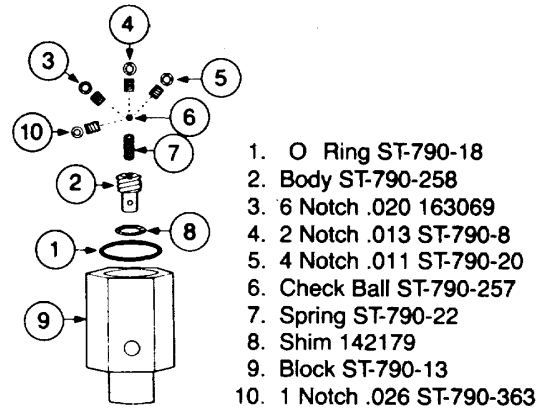

Figure 16H-90. Injector Seat Restrictor Orifice
9. Place the adapter plate over the master injector, ST-768, ST-1210, ST-1262 or ST-1306, and engage the locator in the injector mounting holes. Make sure the seat is retracted and the timing marks are aligned at the timing wheel, Figure 16H-76.